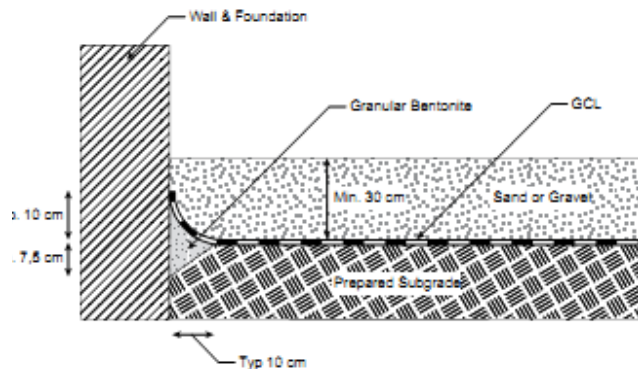

Fig. 16: Cross-section of Claymat GCL seal against an embedded
5. When the **Claymat GCL** is terminated at a structure or wall that is embedded into the subgrade on the floor of the containment area, the subgrade should be notched. The notch is filled with granular bentonite; the **Claymat GCL** should be placed over the notch and up against the structure (Figure 16). Connection to the structure can be accomplished by placement of soil or stone backfill in this area. When structures or walls are at the top of a slope, additional detailing may be required. Contact **ABG** for specific guidance.